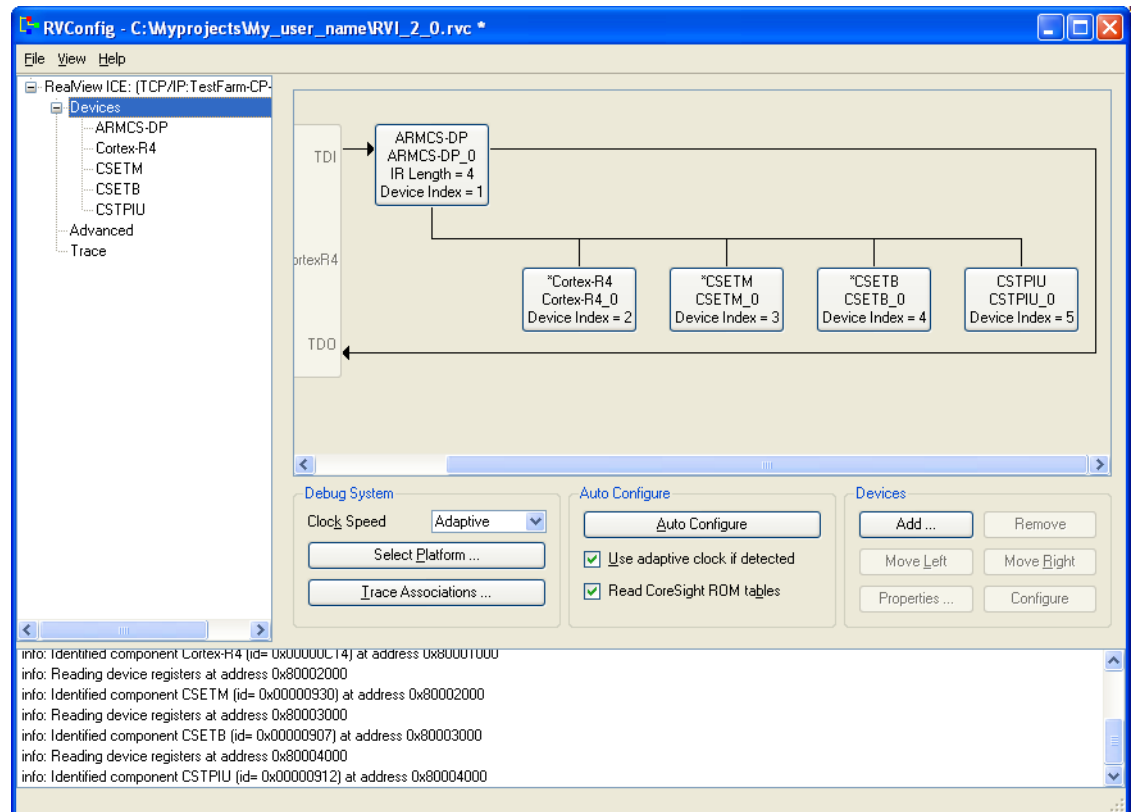

Figure B-6 RVConfig utility
3. Select **Configure...** from the context menu to display the RVConfig utility. Figure B-6 shows an example: